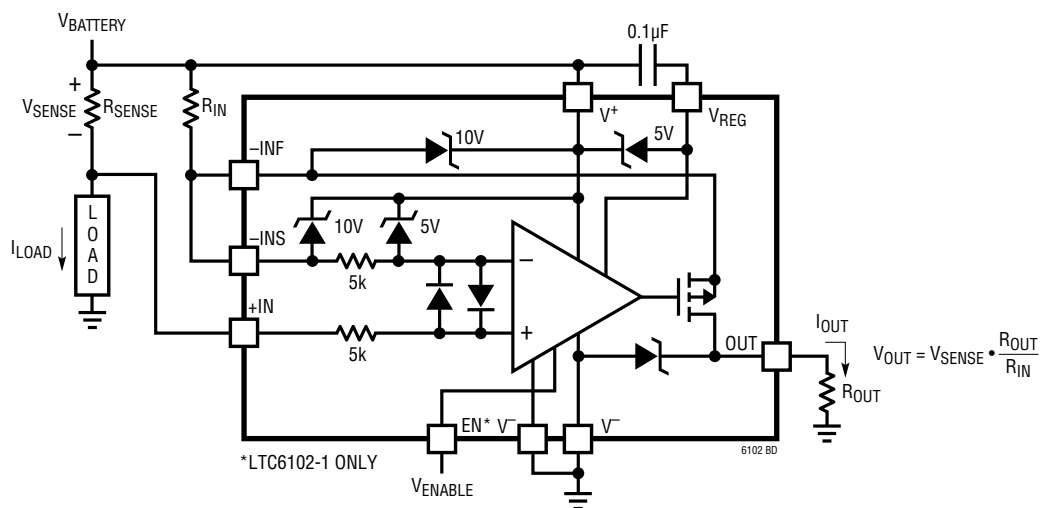

Figure 1. Block Diagram and Typical Connection
**ELECTRICAL CHARACTERISTICS** (LTC6102HV) The ● denotes the specifications which apply over the full operating temperature range, otherwise specifications are at  $T_A = 25^\circ\text{C}$ .  $R_{IN} = 10\Omega$ ,  $R_{OUT} = 10k$ ,  $V_{SENSE}^+ = V^+$  (see Figure 1 for details),  $V^+ = 12V$ ,  $V^- = 0V$  unless otherwise noted.
**ELECTRICAL CHARACTERISTICS** (LTC6102HV) The ● denotes the specifications which apply over the full operating temperature range, otherwise specifications are at  $T_A = 25^\circ\text{C}$ .  $R_{IN} = 10\Omega$ ,  $R_{OUT} = 10k$ ,  $V_{SENSE^+} = V^+$  (see Figure 1 for details),  $V^+ = 12V$ ,  $V^- = 0V$  unless otherwise noted.
The LTC6102 high side current sense amplifier (Figure 1) provides accurate monitoring of current through a user-selected sense resistor. The sense voltage is amplified by a user-selected gain and level shifted from the positive power supply to a ground-referred output. The output signal is analog and may be used as is or processed with an output filter.